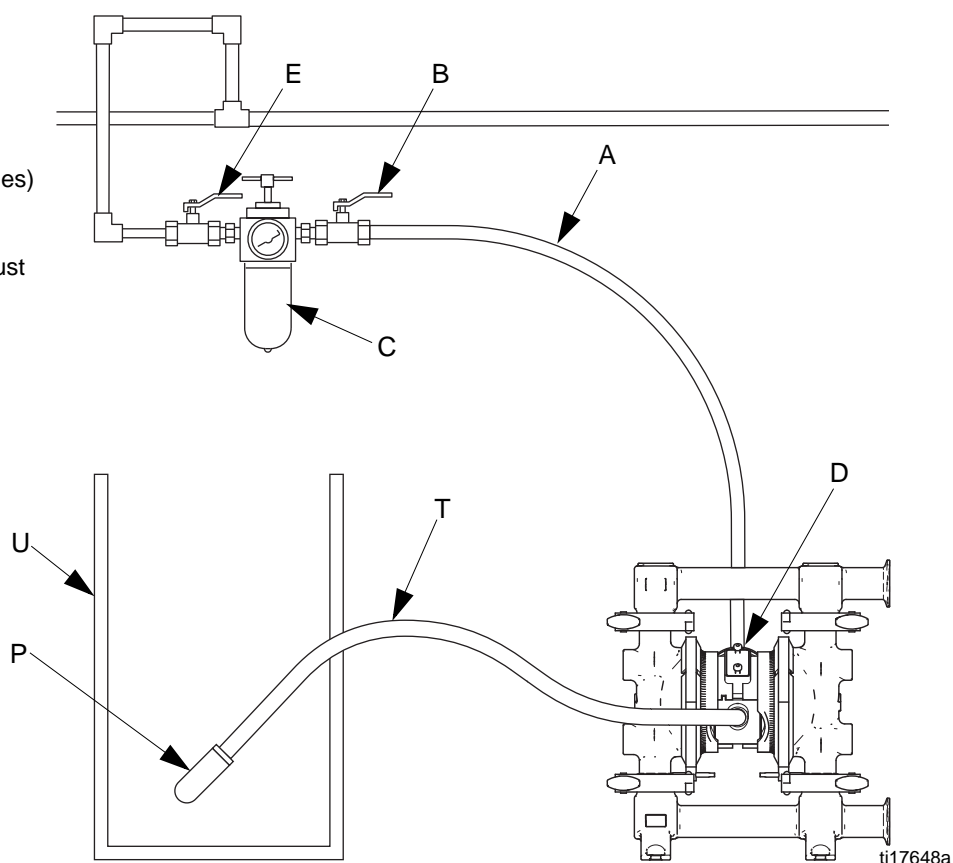

FIG. 4: Venting Exhaust Air
- place an appropriate container at the end of the air exhaust line to catch fluid. If a diaphragm ruptures, the fluid being pumped will exhaust with the air. See FIG. 4.
1. Remove the muffler (P) from the pump air exhaust port.
2. Install a grounded air exhaust hose (T) and connect the muffler (P) to the other end of the hose. The minimum size for the air exhaust hose is 3/8 in. (9.5 mm) ID. If a hose longer than 15 ft (4.57 m) is required, use a larger diameter hose. Avoid sharp bends or kinks in the hose.
3. Place a container (U) at the end of the air exhaust line to catch fluid in case a diaphragm ruptures. See FIG. 4.